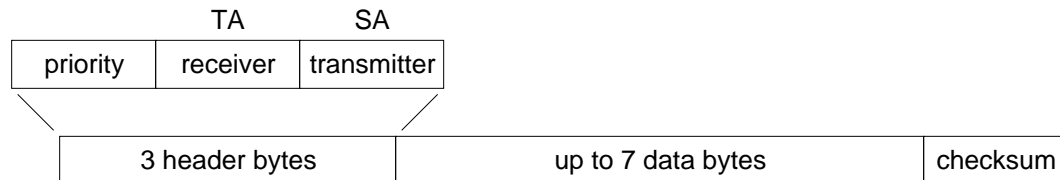

Figure 3. An OBD Message
to as header bytes. Figure 3 below shows a typical OBD message structure that is used by the SAE J1850, ISO 9141-2, and ISO 14230-4 standards. It uses 3 header bytes as shown, to provide details concerning the priority, the receiver, and the transmitter. Note that many texts refer to the receiver as the ‘Target Address’ (TA), and the transmitter as the ‘Source Address’ (SA).